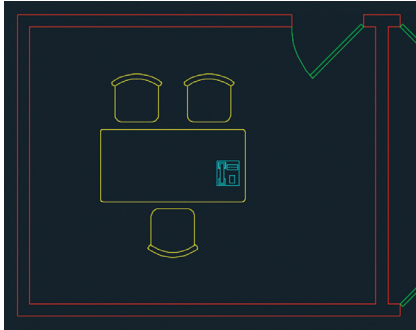

FIGURE 7.20 A phone nested within the desk block and surrounding chair blocks
- Click the Close Block Editor button on the Close panel. Click Save The Changes To Desk in the dialog box that appears. Figure 7.20 shows the result.